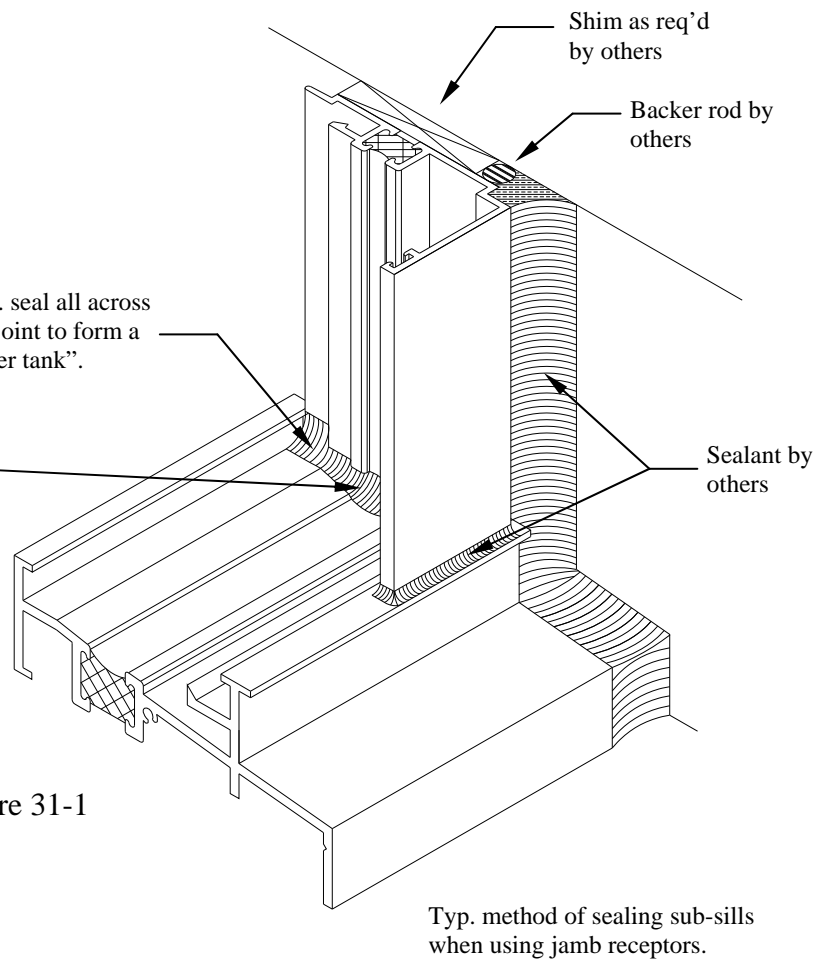

Figure 31-1
- J. Field seal all butt joints tooling sealant from inside the receptor with adequate sealant. Seal the end dams to the sub-sill (See Figure 31-1).